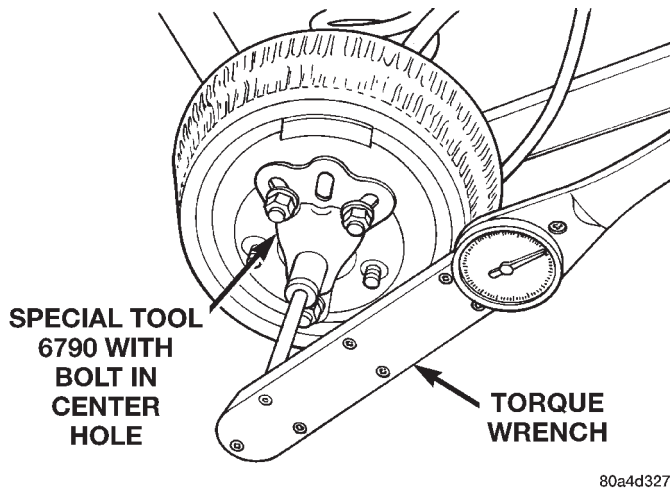

Fig. 5 Trac-lok Test —Typical
(1) Place blocks in front and rear of both front wheels.
(2) Raise one rear wheel until it is completely off the ground.
(3) Engine off, transmission in neutral, and parking brake off.
(4) Remove wheel and bolt Special Tool 6790 to studs.
(5) Use torque wrench on special tool to rotate wheel and read rotating torque (Fig. 5).
(6) If rotating torque is less than 22 N·m (30 ft. lbs.) or more than 271 N·m (200 ft. lbs.) on either wheel the unit should be serviced.